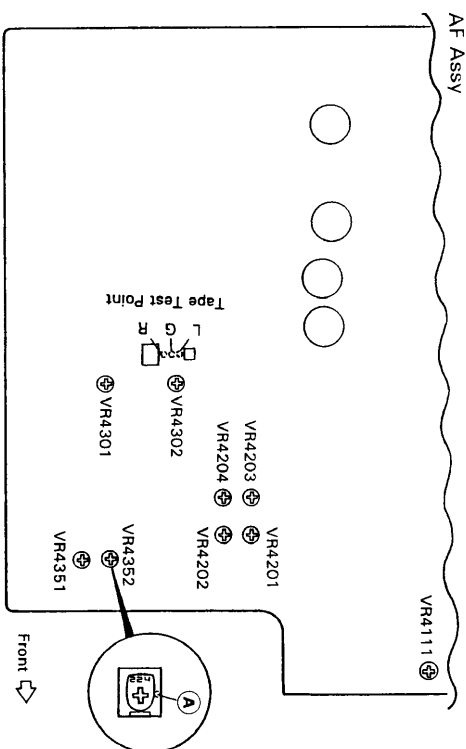

Fig. 3-4 Adjusting Points and Measurement Points
- Adjustment points and test points are shown in Fig. 3-2 and Fig. 3-4.